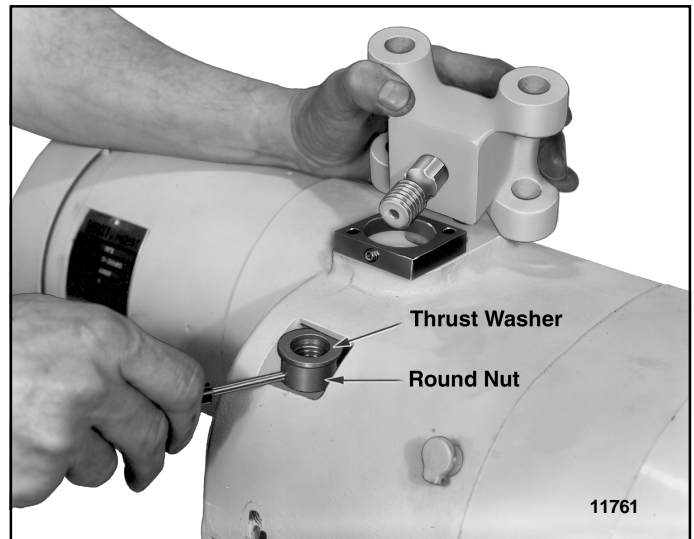
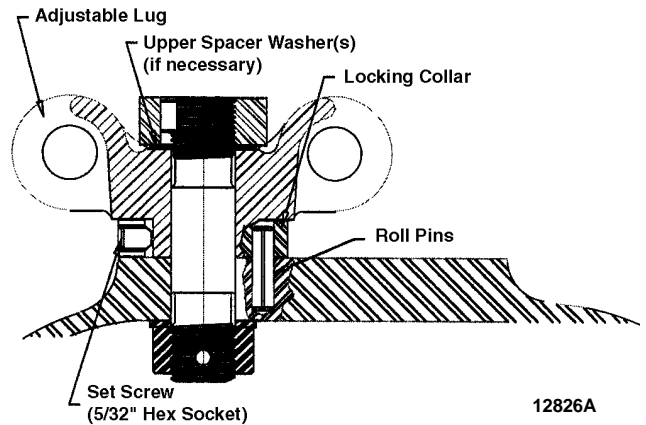

Figure 3
Figure 11
2. Place roll pins furnished with kit in hoist frame, driving them into the frame until they bottom in their holes. Then place locking collar (chamfer side up and set screw to the access hole side of hoist) as shown in Figure 3.
3. Install suspension stud assembly, suspension lug, washers and round nut. (Do not use nut that was removed from hook. **Use nut furnished with kit.**) Suspension stud assembly should have a round nut on top pinned in place. See Figure 3. Note that two (2) thin spacer washers should be installed between the upper round nut and the suspension lug. (See Figure 11.) A dab of grease on the washer will hold the washer in place until the lower nut is started. Turn round nut on top of lug with channel lock pliers while holding lower round nut inside hoist frame with a pin punch until pin holes in suspension stud and lower round nut are lined up. If the nut cannot be installed far enough to allow the holes to line up, remove the lower round nut, and remove one (1) of the **upper** spacer washers. Reassemble the lug as described above. If the holes still will not line up, remove the remaining **upper** thrust